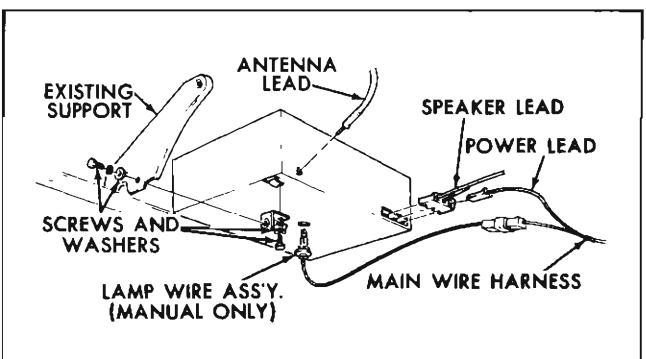

Fig. 12-17 Tempest Radio—Rear View
SPEAKER—REMOVE AND REPLACE—(Fig. 12-17)
2. Disconnect lead-in plug from radio receiver (Fig. 12-17).